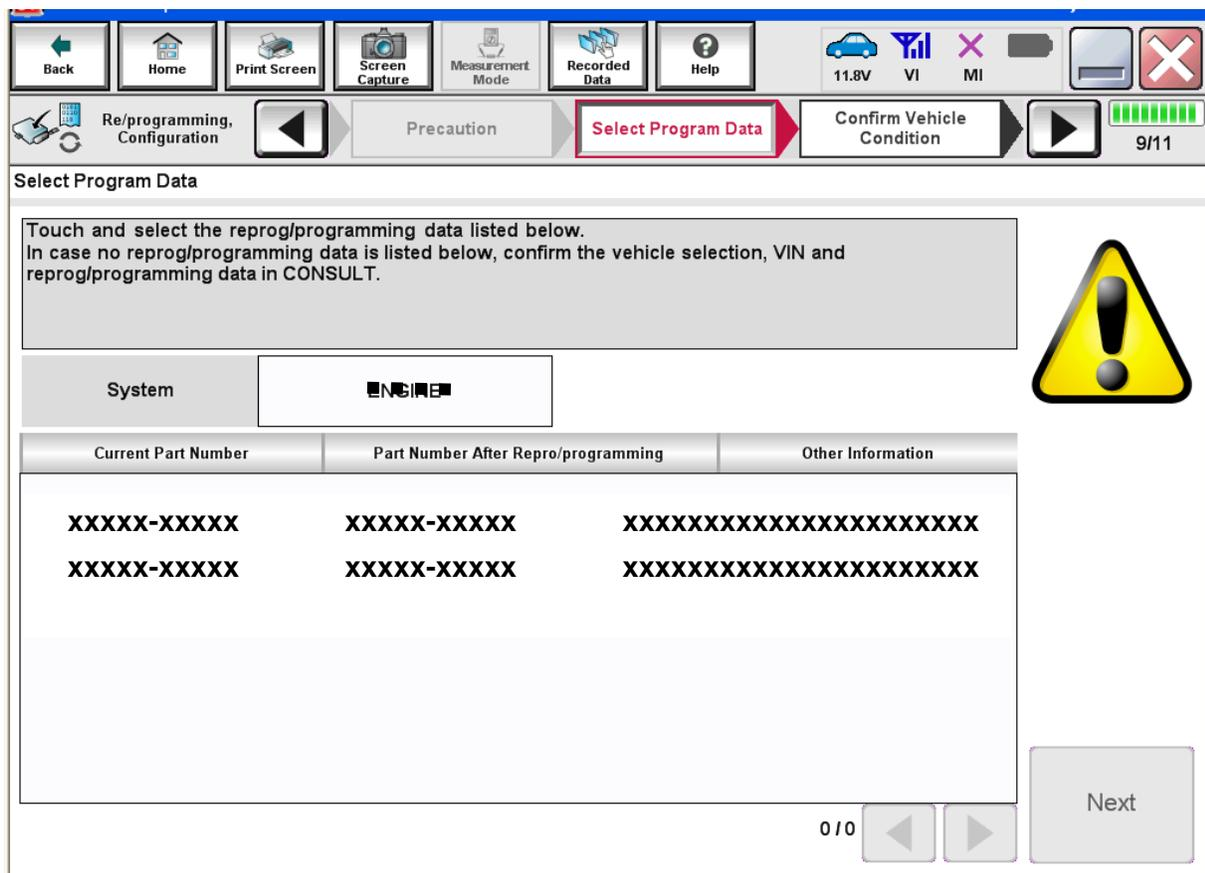

Figure 14
- In this case, the screen in Figure 14 displays.